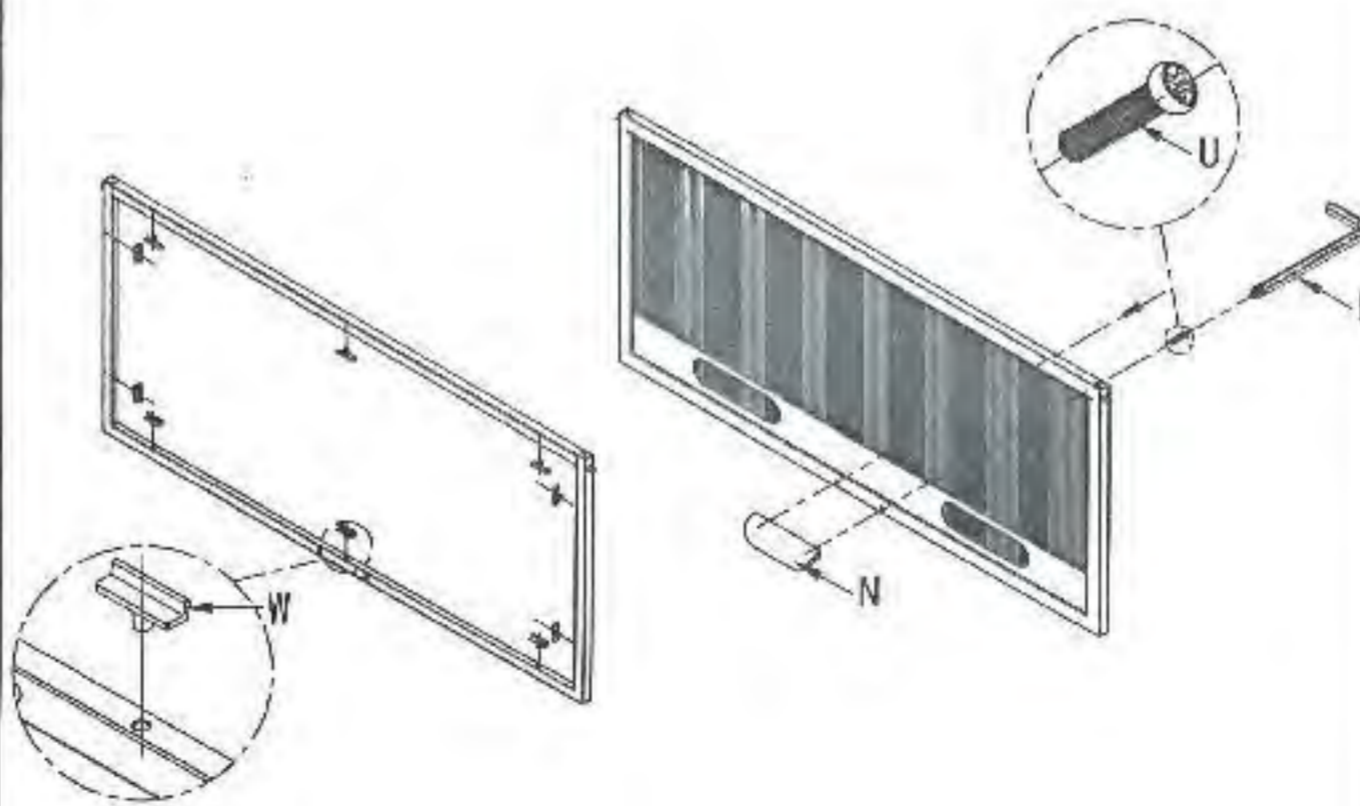
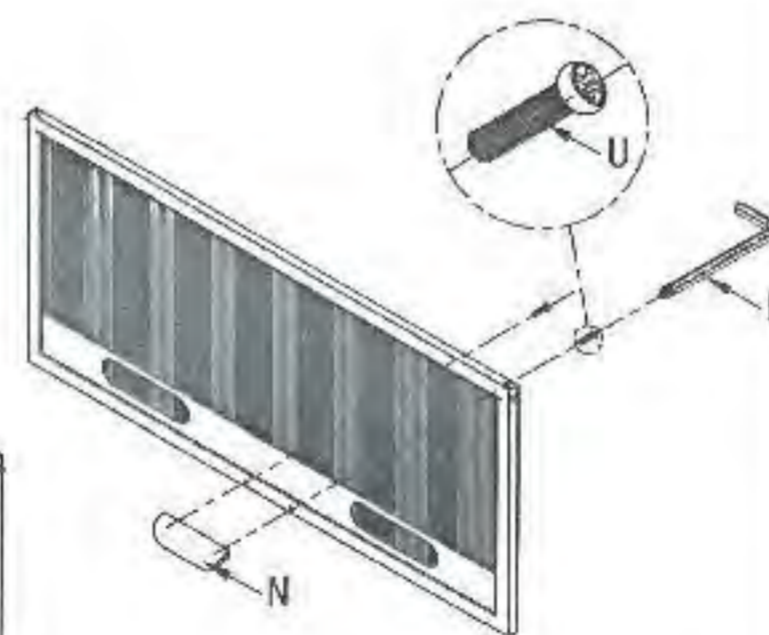

Figure 9
Figure 10
6. Turn the door panel of the installed acrylic panel over and press the door panel buckles into the holes in the direction shown in Figure 9 to fix it. Then use the cross pan head screws to fix the back of the door panel and the door handle in the direction shown in Figure 10.